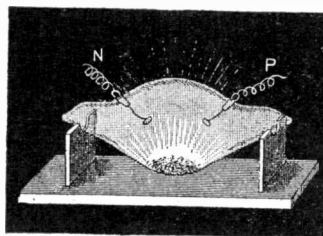

FIG. 56. APPARATUS FOR PRODUCING PHOSPHORESCENT LIGHT.
The production of phosphorescent light by molecular bombardment is most conveniently shown by the apparatus represented in Fig. 56 ("Electricity in Everyday Life," Houston). Here an egg-shaped vessel is provided at (N)